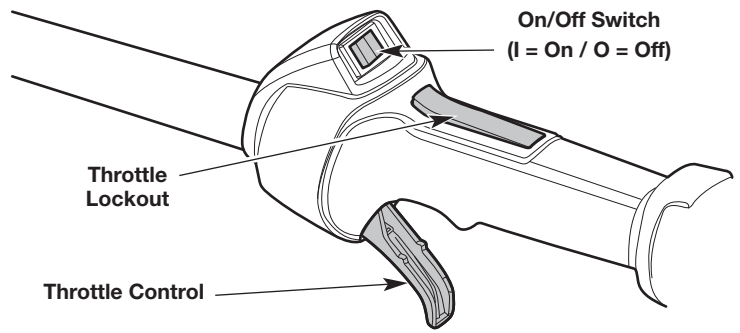

Fig. 8
NOTE: There is no need to turn the unit on. The On/Off switch is in the **On (I)** position at all times (Fig. 8).
NOTE: DO NOT squeeze the throttle control (Fig. 8) until step 6.
6. Press and hold the throttle lockout (Fig. 8). Squeeze the throttle control as needed for operation (Fig. 8).
2. Press and hold the On/Off switch in the **Off (O)** position until the engine comes to a complete stop (Fig. 8).